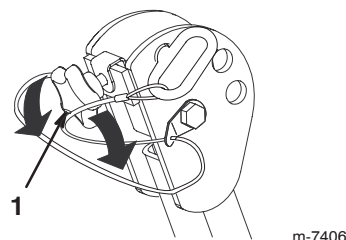

Figure 2
1. To lower the roll bar, loosen the front handles (Fig. 2).
7. Tighten the front handles against the center roll bar ends (Fig. 2).